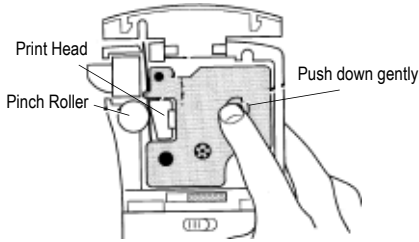

Figure 4
3. Insert the cassette with the label and ribbon positioned between the print head and pinch roller. See Figure 4.